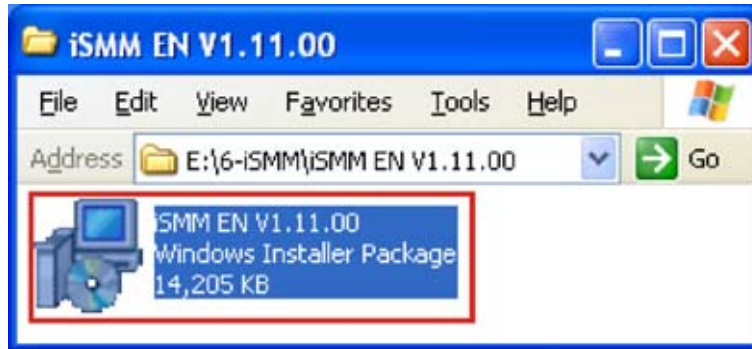

Figure 7-30: iSMM Installation File
Step 68: The contents of the directory are displayed. (Figure 7-30)
Step 69: Double click the iSMM EN V1.11.00 setup file. (Figure 7-30)